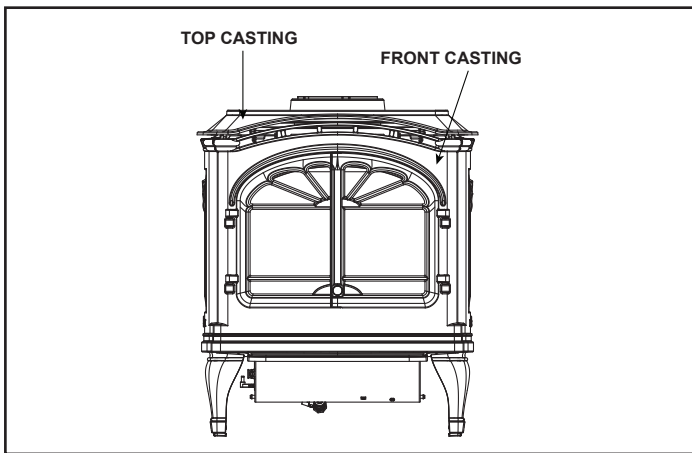

Figure 6.10 - Remove Casting
- Remove front casting, if not previously removed, by grasping it at the top and lifting up. The top casting may need to be lifted slightly to accommodate removal of the front casting. See Figure 6.10.